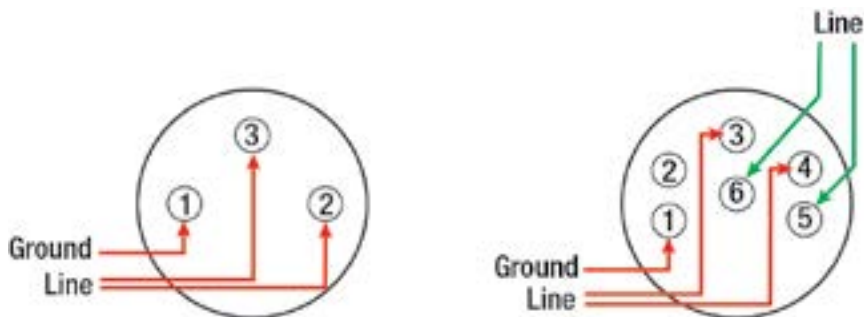

Figure 134: XLR Terminations
**AudioCom® XLR Terminations** - See Figure 134.